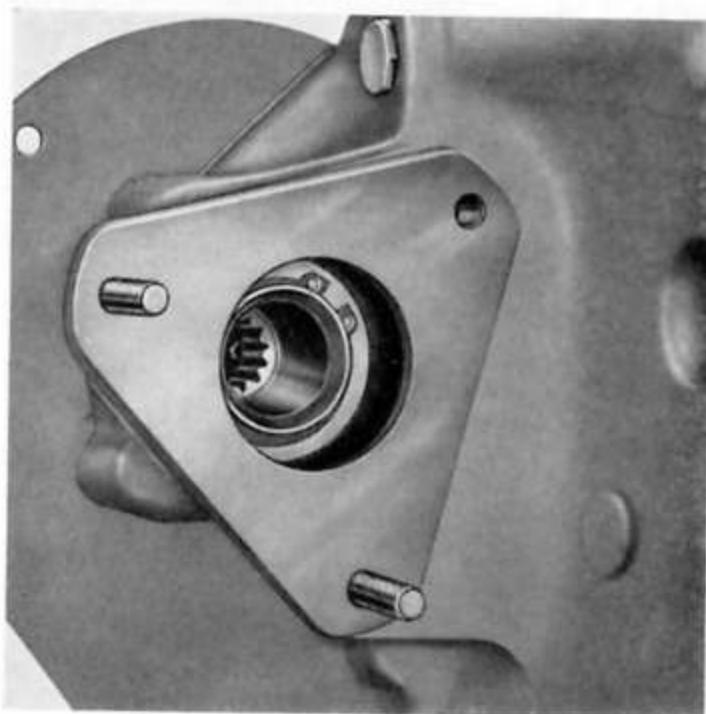

Fig. 50
16. Refit the injection pump drive hub in its bearing and locate with the circlip (see Fig. 50). Check the drive hub end-float (see Specifications).